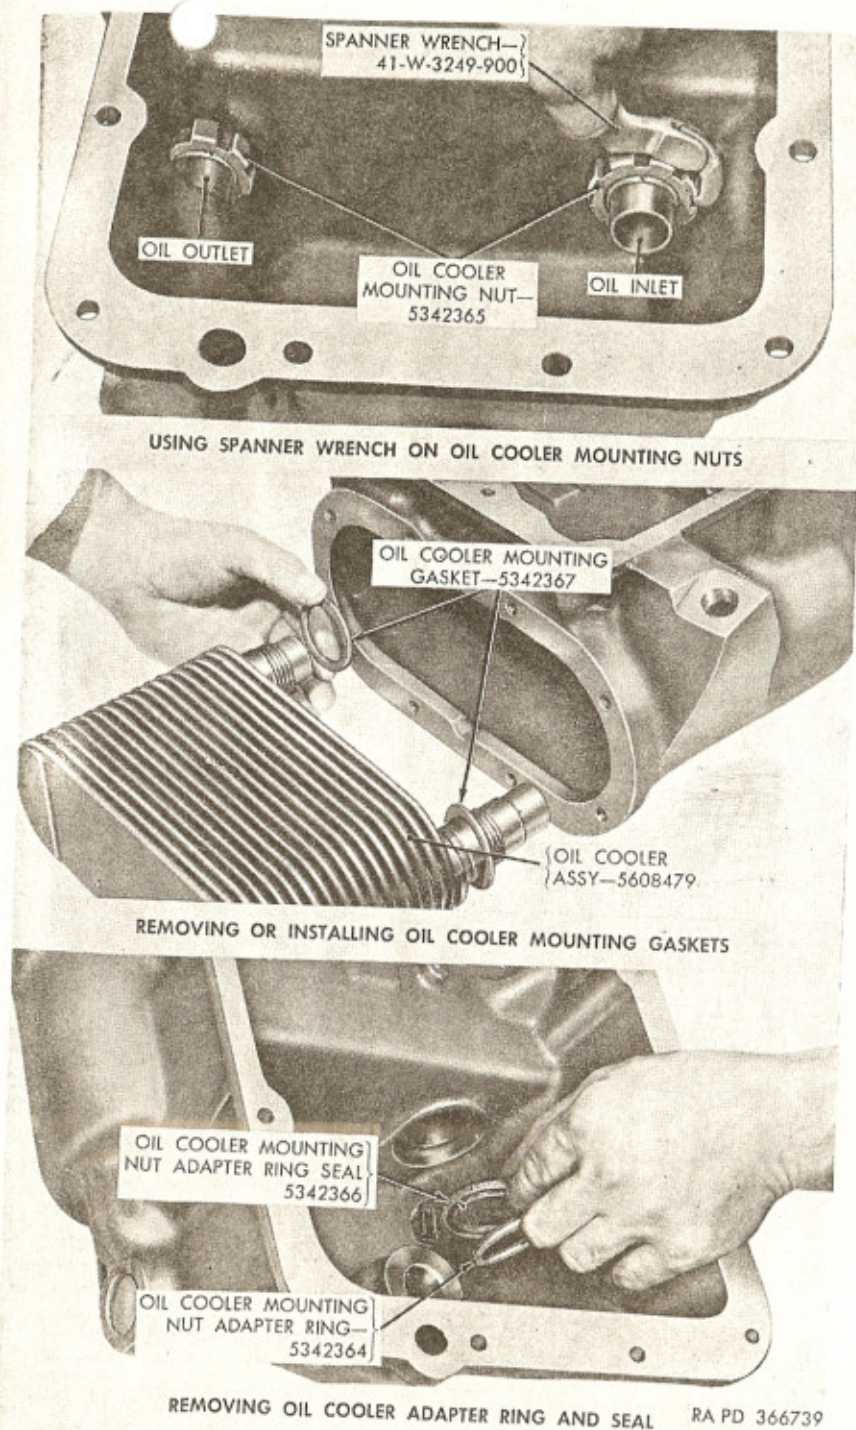

Figure 72. Removing oil cooler components from oil pan.
a. Place new oil cooler mounting gaskets (D) on oil cooler inlet and outlet tubes (fig. 72).
b. Position oil cooler assembly (C) in oil pan with the oil outlet (long) tube on right side when facing oil cooler opening in oil pan. Insert oil cooler into oil pan until end of oil outlet (long) tube is through wall in oil pan. Place oil cooler mounting nut adapter ring seal (E), oil cooler mounting nut adapter ring (F), and oil cooler mounting nut (G) on oil outlet tube; then push oil cooler into place with oil outlet tube entering passage in pan.
Install oil cooler mounting nut adapter ring seal (E), oil cooler mounting nut adapter ring (F), and oil cooler mounting nut (G) on oil inlet (short) tube. Thread mounting nuts onto oil cooler inlet and outlet tubes and tighten, using spanner wrench—41-W-3249-900 (fig. 72). Nuts must be tightened to 130 to 140 pound-feet torque. After tightening, stake threads on oil cooler inlet and outlet tubes in two places each to prevent nuts loosening.
c. Position oil pan oil screen assembly (M) in oil pan, with hole in side of screen over oil cooler oil inlet tube. Install oil screen bolt (N) and tighten to 2 to 2½ pound-feet torque.
d. Install magnetic drain plugs (H) in oil pan, using new drain plug gaskets (J). Tighten drain plugs to 35 to 45 pound-feet torque.
e. Install by-pass valve assembly (S) in opening in oil pan, with new gasket in place (par. 81b(4)). Tighten by-pass valve plug to 35 to 45 pound-feet torque. Place by-pass valve cap (R) over valve plug and tap into place with hammer.
f. Using a new oil cooler cover gasket (B), install oil cooler cover (A) on oil pan and attach with eight ⅝ x ⅞ bolts (V) and ⅝-inch lockwashers (U). Tighten bolts to 15 to 18 pound-feet torque.
g. On Model 301MG, install ¼-inch square head drain plug (W) in oil cooler cover and tighten firmly.